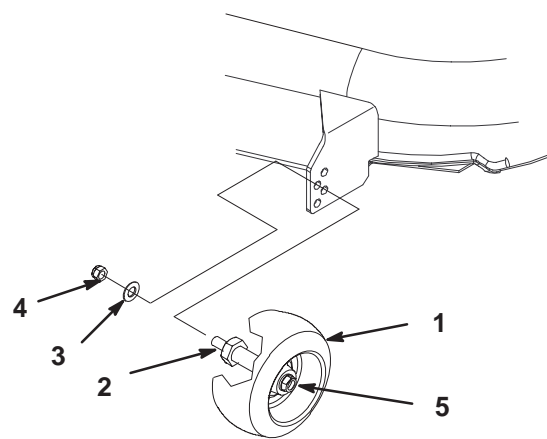

Figure 16
1. After adjusting height-of-cut, remove nut and washer while holding stud with wrench (Fig. 16).
Note: Do not remove the wheel nut and washer (Fig. 16).
2. Select a hole position so the gage wheel is a minimum of 3/8 in. (9.5 mm) off the ground for the height-of-cut to be used (Fig. 16).
3. Reinstall the stud nut and washer (Fig. 16).